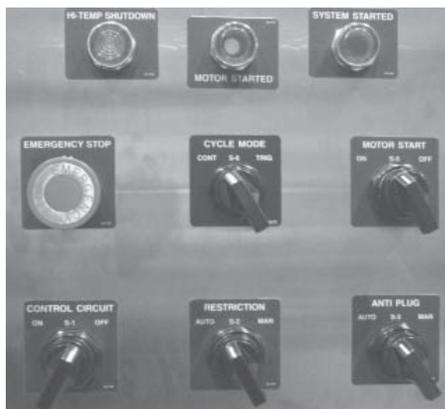
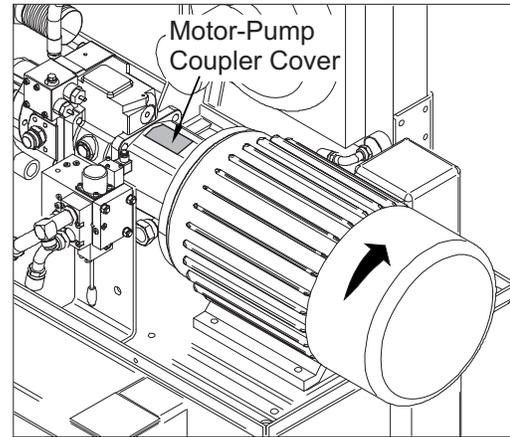

Figure 4 - Control Panel
Figure 5 - Correct motor rotation
**Check Motor Rotation** Move the Control Circuit Switch to OFF, Restriction switch to AUTO, and Anti-Plug switch to AUTO (see Figure 4), (“automatic” setting). Remove the motor-pump coupler cover at the right side for viewing. Jog the motor to check for correct rotation. Note the motor shaft direction of rotation (standing at the front of the WE-4B viewing the motor). Correct rotation is clockwise (see Figure 5). Replace the cover.